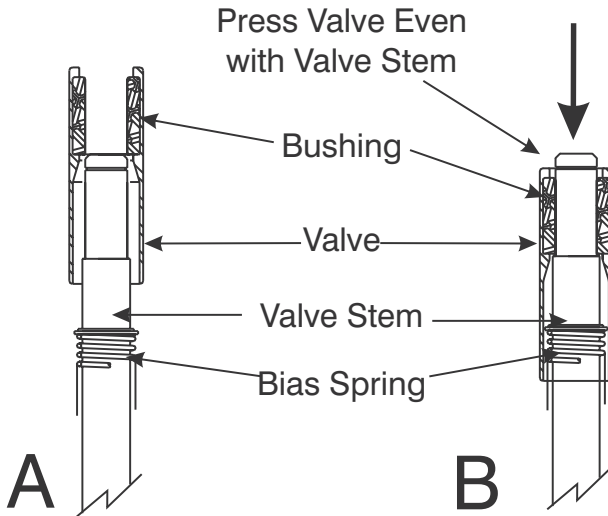

Figure 9-17. Press Valve onto Valve Stem.
4. By hand, press the Valve onto the Valve Stem until the retaining ring groove in the Stem is level with the top of the Valve as shown in Figure 9-17-B.